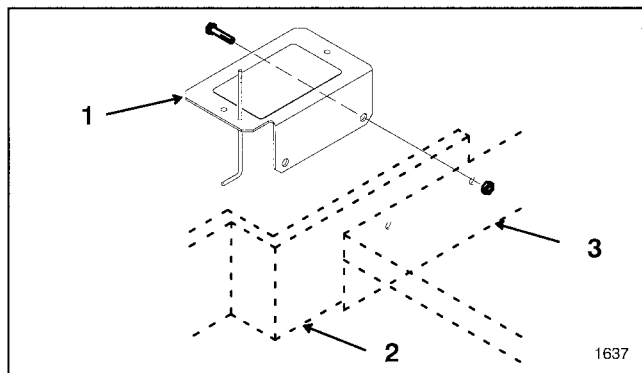

Figure 12
1. Mount battery holder and cutting unit carrier frame at the same time to upper holes on right side of traction unit. Use (2) 1/2-13 x 1-1/4" lg. flange head cap screws and lock nuts (Fig. 12).